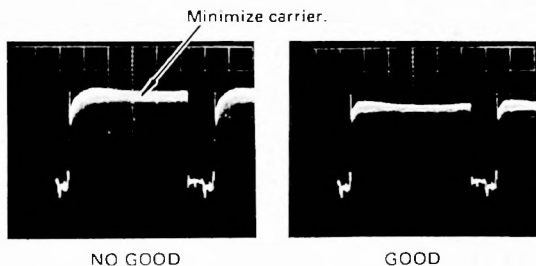

Fig. 4-4-12
- Adjust H.SIZE VR105 so that the carrier (3.58MHz) on the center portion of the Y signal at TP203 is minimum. (Fig. 4-4-12)
- Adjust H.LIN-1 VR112 so that the carrier (3.58MHz) on the Y signal is minimum. (Fig. 4-4-12)